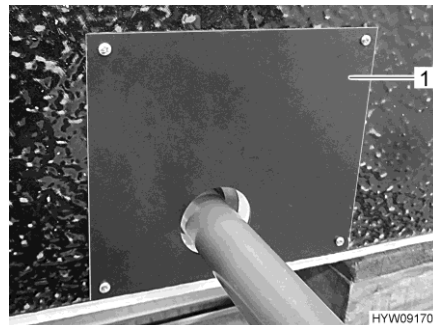

Fig. 163 Cover (waste water tank tray)
- Remove the cover (Fig. 163,1) on the waste water tank tray.
- Install the cover (Fig. 163,1).